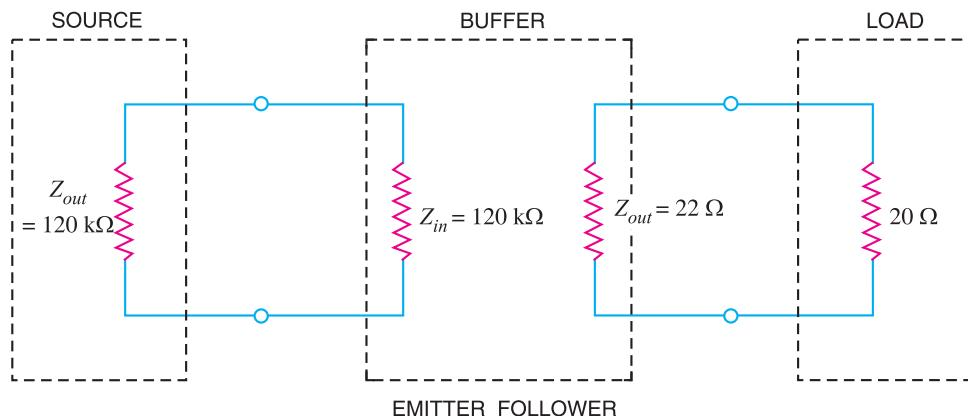

Fig. 13.25
**(ii) Impedance matching.** We know that an emitter follower has high input impedance and low output impedance. This makes the emitter follower an ideal circuit for impedance matching. Fig. 13.25 shows the impedance matching by an emitter follower. Here the output impedance of the source is  $120 \text{ k}\Omega$  while that of load is  $20 \Omega$ . The emitter follower has an input impedance of  $120 \text{ k}\Omega$  and output impedance of  $22 \Omega$ . It is connected between high-impedance source and low impedance load. The net result of this arrangement is that maximum power is transferred from the original source to the original load. When an emitter follower is used for this purpose, it is called a *buffer amplifier*.